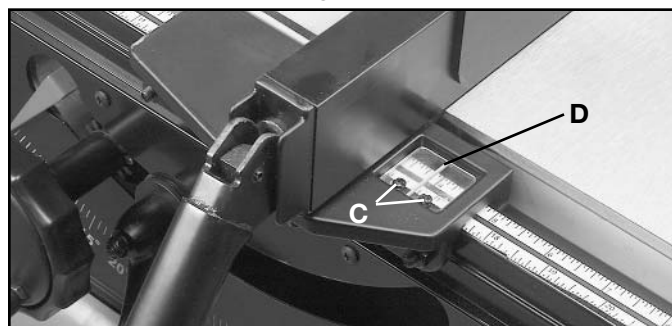

Fig. 22B
2. A pointer is supplied to indicate the distance the fence is positioned away from the saw blade. If an adjustment to the pointer (D) is required, loosen the screws (C) Fig. 22B, that fasten the pointer window to the fence head and adjust the pointer accordingly.